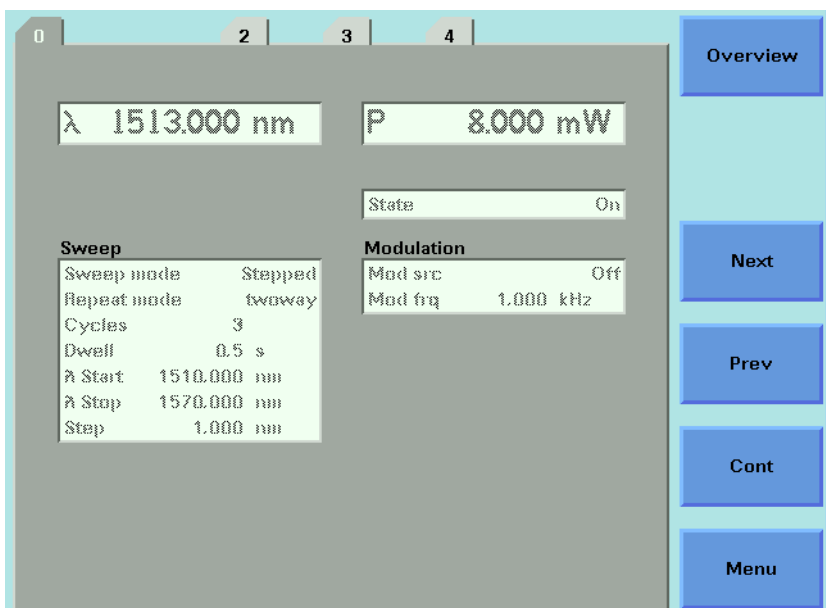

Figure 73 Pausing a Stepped Sweep
- b press [Pause] to pause the sweep. The screen in Figure 73 appears. You can: